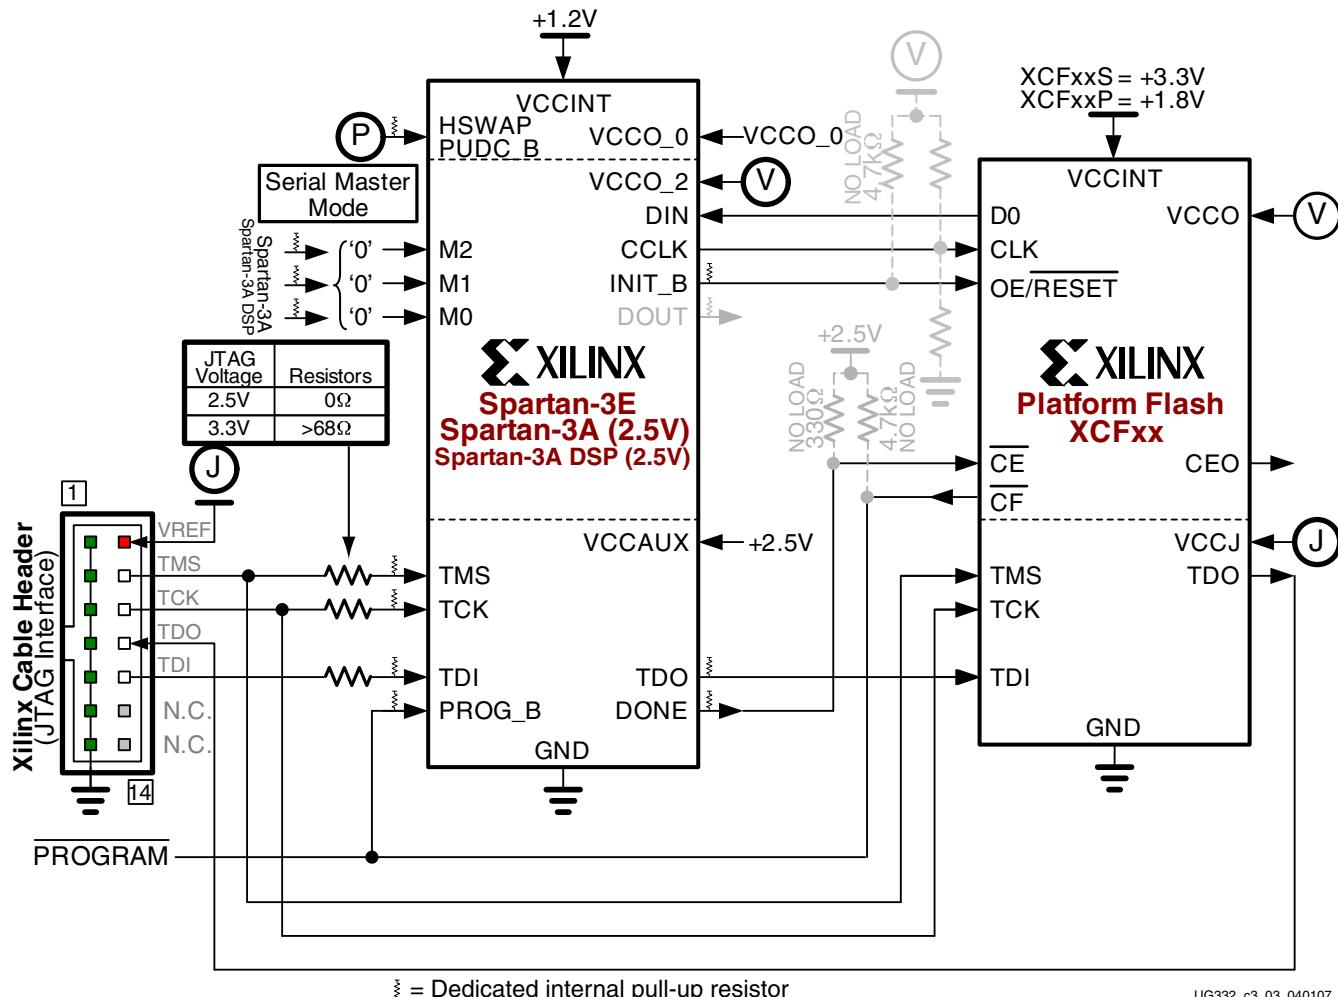
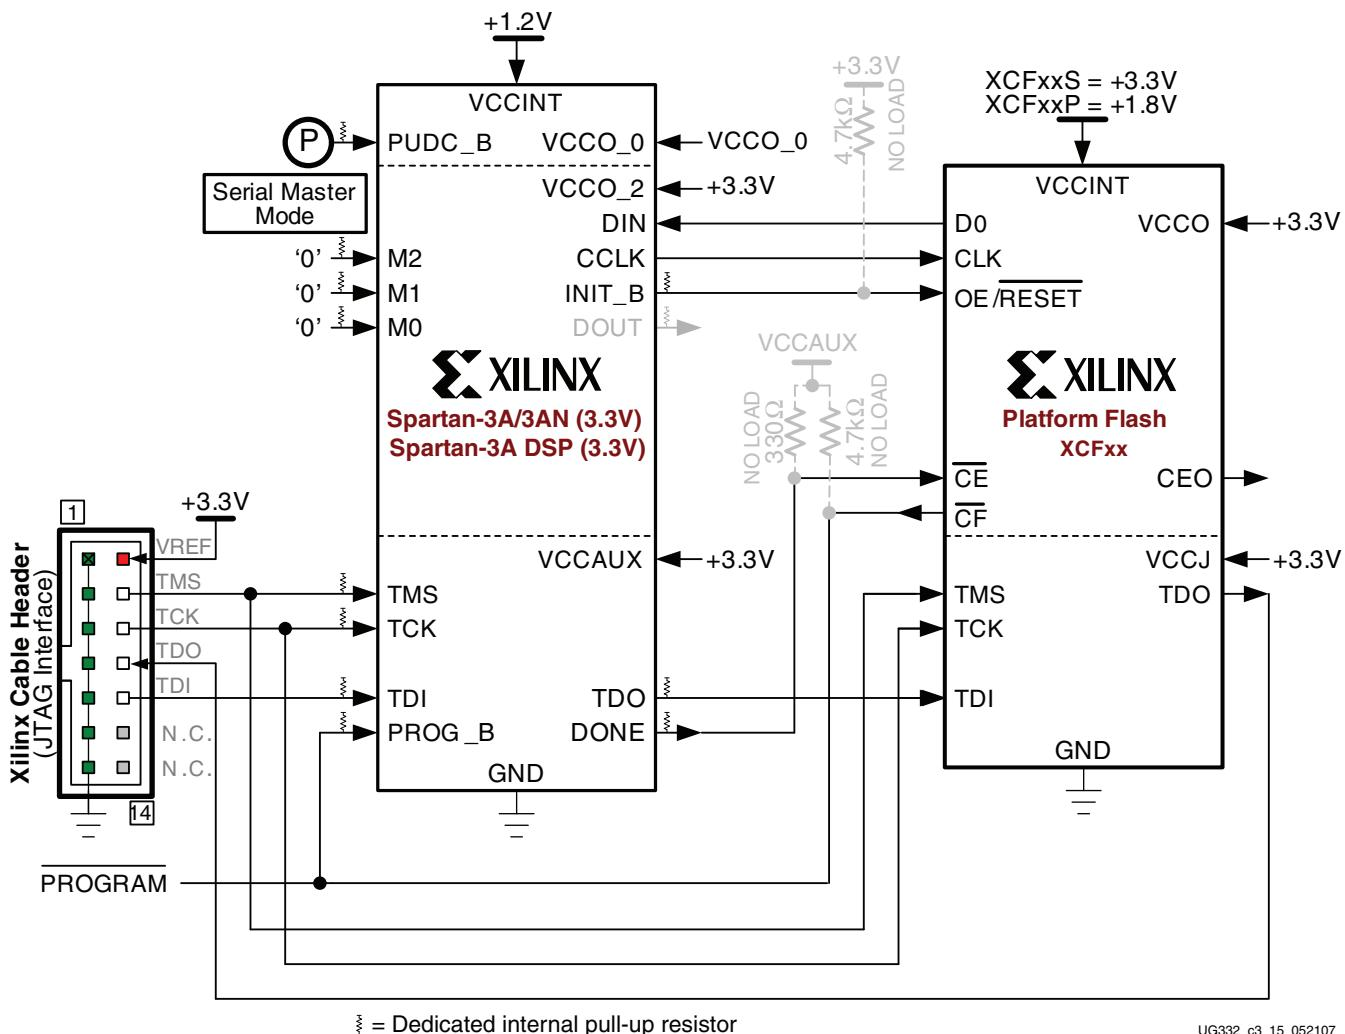
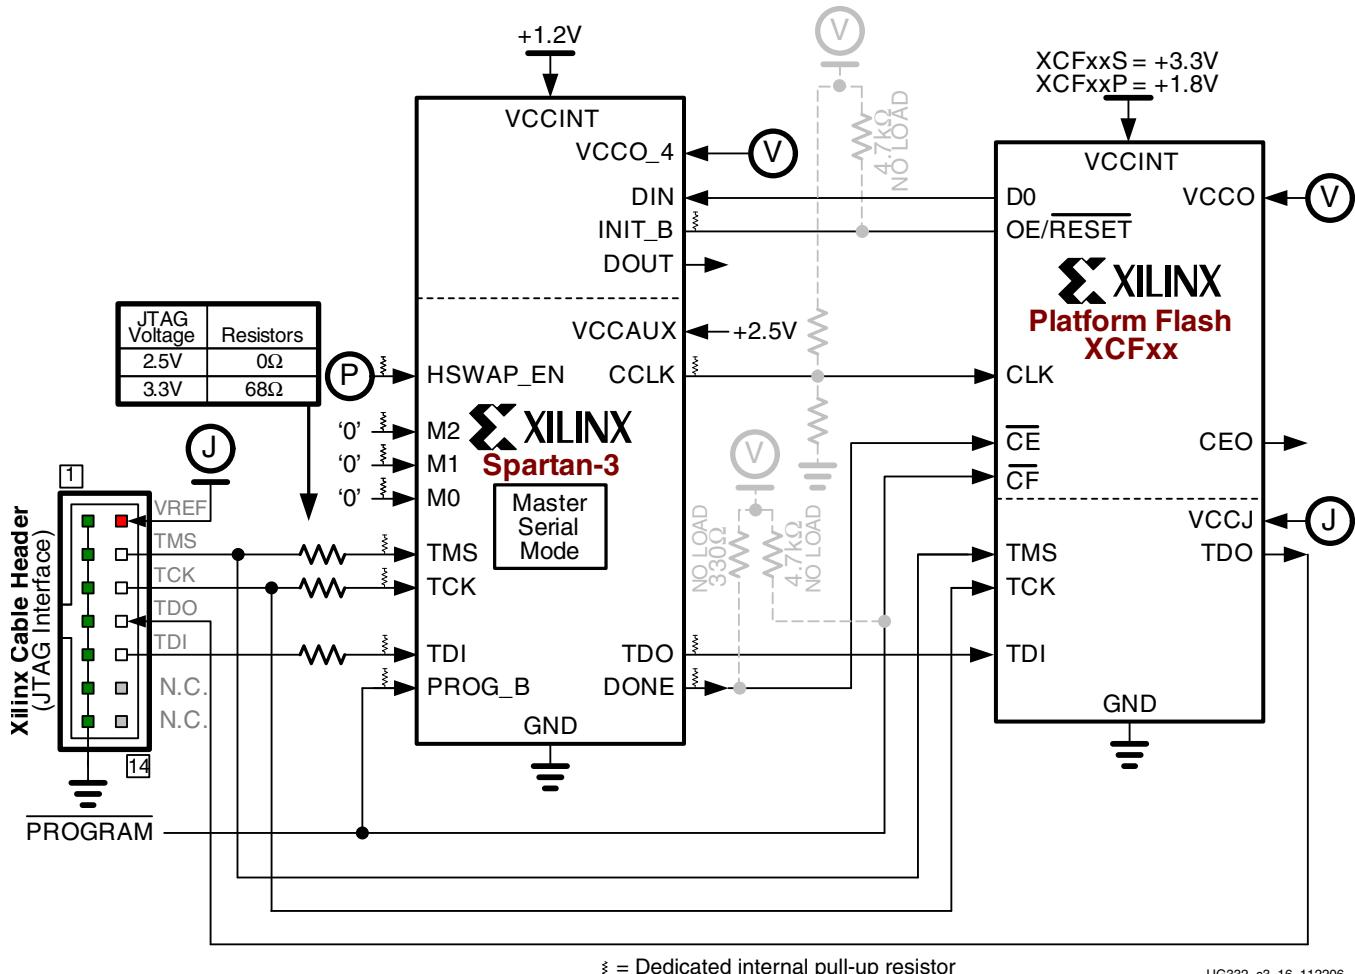

Figure 3-1: Master Serial Mode Using Platform Flash PROM (Spartan-3E or Spartan-3A/3A DSP FPGA, $V_{CCAUX} = 2.5V$)
Figure 3-2: Master Serial Mode Using Platform Flash PROM (Extended Spartan-3A Family FPGA, V_{CCAUX} = 3.3V)
Figure 3-3: Master Serial Mode Using Platform Flash PROM (Spartan-3 FPGA)
In Master Serial mode ($M[2:0] = <0:0:0>$), the Spartan-3 generation FPGA configures itself from an attached Xilinx Platform Flash PROM, as illustrated in Figure 3-1, Figure 3-2, and Figure 3-3.
- Figure 3-1, page 80 illustrates the Master Serial configuration interface for Spartan-3E and Spartan-3A/3A DSP FPGAs when the FPGA’s V_{CCAUX} supply is at 2.5V. Spartan-3E FPGAs
- Figure 3-2, page 81 illustrates the Master Serial configuration interface for Extended Spartan-3A family FPGAs when $V_{CCAUX} = 3.3V$. Spartan-3AN FPGAs always have $V_{CCAUX} = 3.3V$. Table 3-1, page 80 lists the FPGA/PROM connections.
- Figure 3-3, page 82 illustrates the Master Serial configuration interface for Spartan-3 FPGAs.